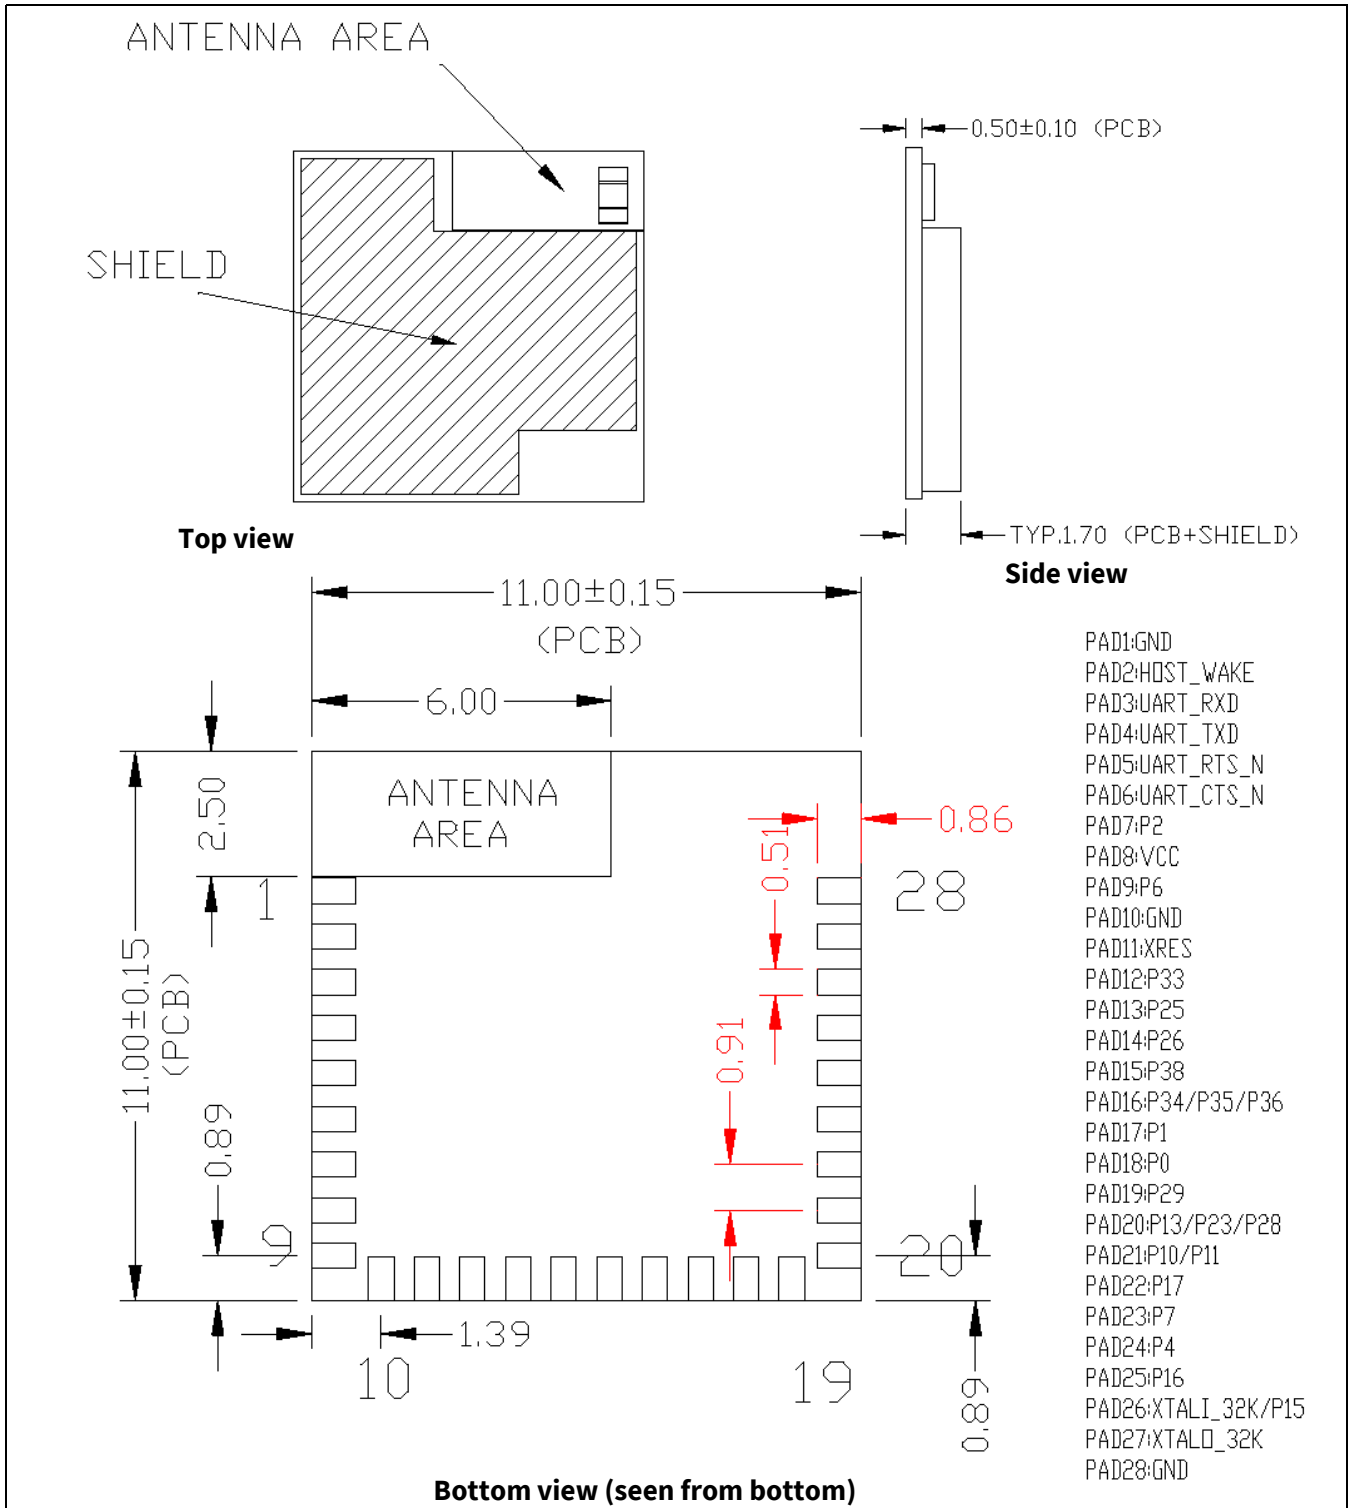
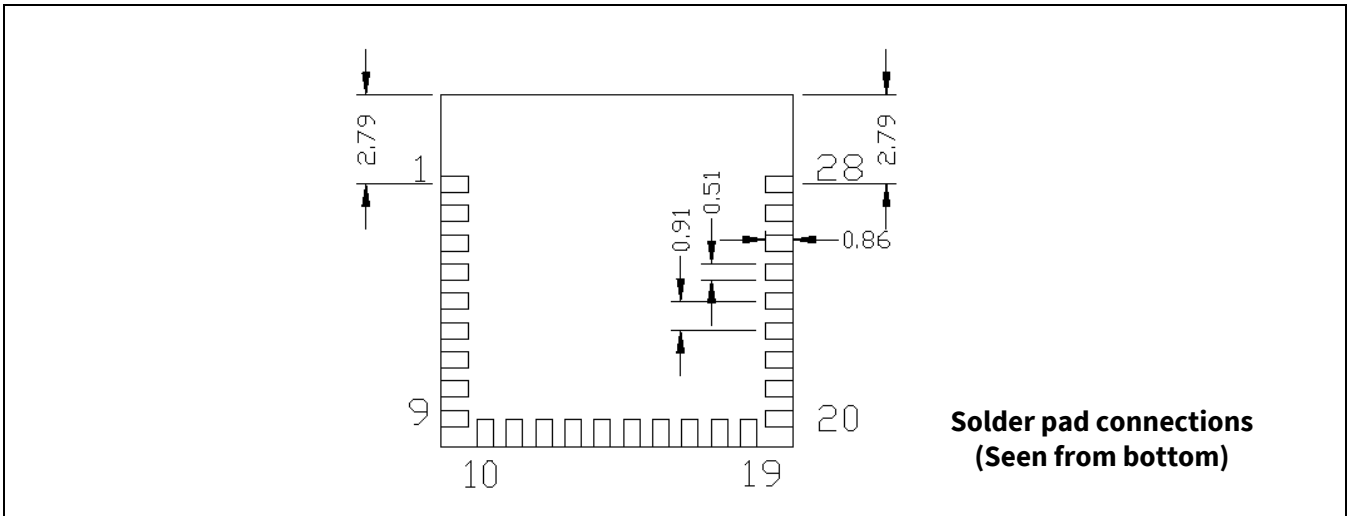
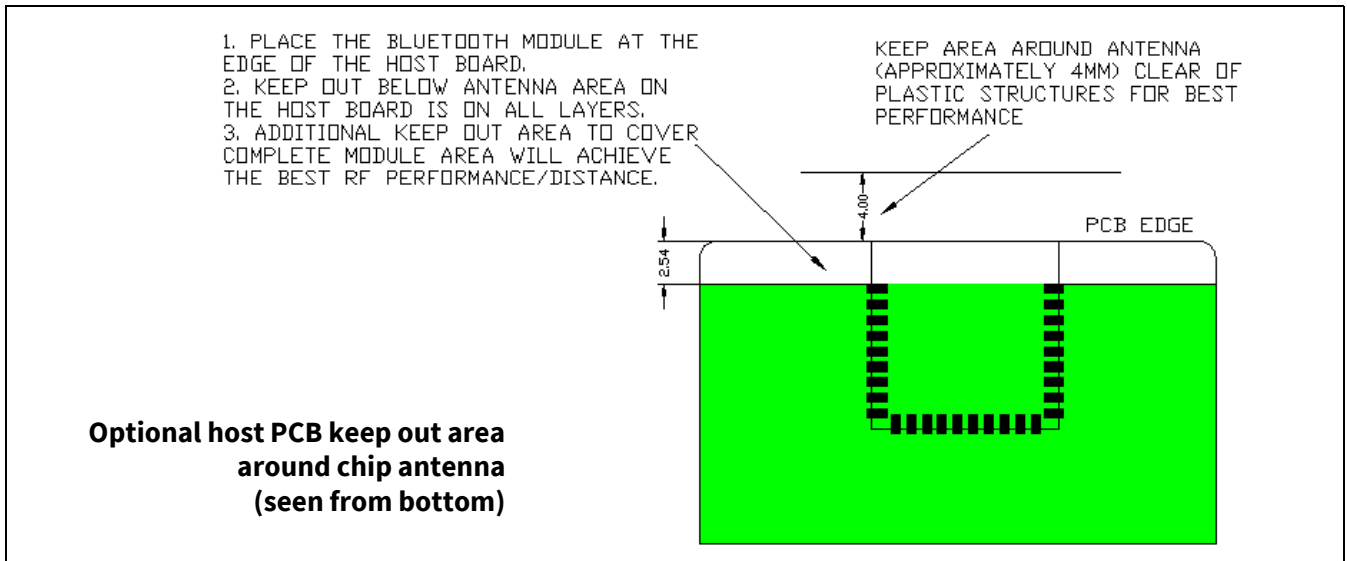

Figure 2 Module mechanical drawing^[1]
Figure 3 Solder pad dimensions (seen from bottom)
Figure 4 Optional additional host PCB keep out area around CYBT-4230xx-02 chip antenna
Infineon reserves the right to select components from various vendors to achieve the Bluetooth® module functionality. Such selections will still guarantee that all mechanical specifications and module certifications are maintained. Any changes to the current BOM for CYBT-4230xx-02 will not be made until approval is provided by the end customer for this product. CYBT-4230xx-02 will be held within the physical dimensions shown in the mechanical drawings in Figure 2. All dimensions are in millimeters (mm).
See Figure 2 for the mechanical reference drawing for CYBT-4230xx-02.
As shown in the bottom view of **Figure 2**, CYBT-4230xx-02 has 28 connections to a host board via solder pads (SP). **Table 2** and **Figure 3** detail the solder pad length, width, and pitch dimensions of CYBT-4230xx-02 module.
1. Antenna area keepout: The host board directly below the antenna area of the module (see **Figure 2**) must contain no ground or signal traces. This keep out area requirement applies to all layers of the host board.
2. Module placement: The ideal placement of the Bluetooth® module is in a corner of the host board with the chip antenna located at the far corner. This placement minimizes the additional recommended keep out area stated in item 3 below. See **AN96841** for module placement best practices.
3. Optional keepout: To maximize RF performance, the area immediately around the Bluetooth® module chip antenna may contain an additional keep out area, where there are no grounding or signal traces. The keep out area applies to all layers of the host board. The recommended dimensions of the host PCB keep out area are shown in **Figure 4** (dimensions are in mm).